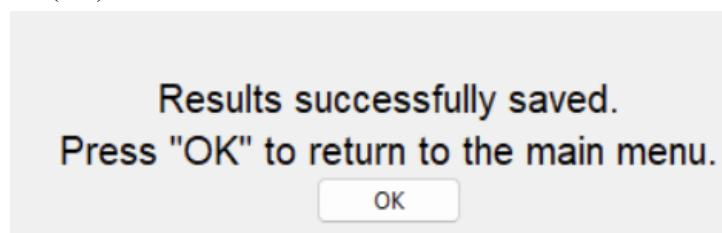

Figure 3.23 - Save File Confirmation Message (TS)
5b: If the file was saved successfully, the screen in figure 3.23 will be displayed. Press “OK to go back to the main menu (TS).